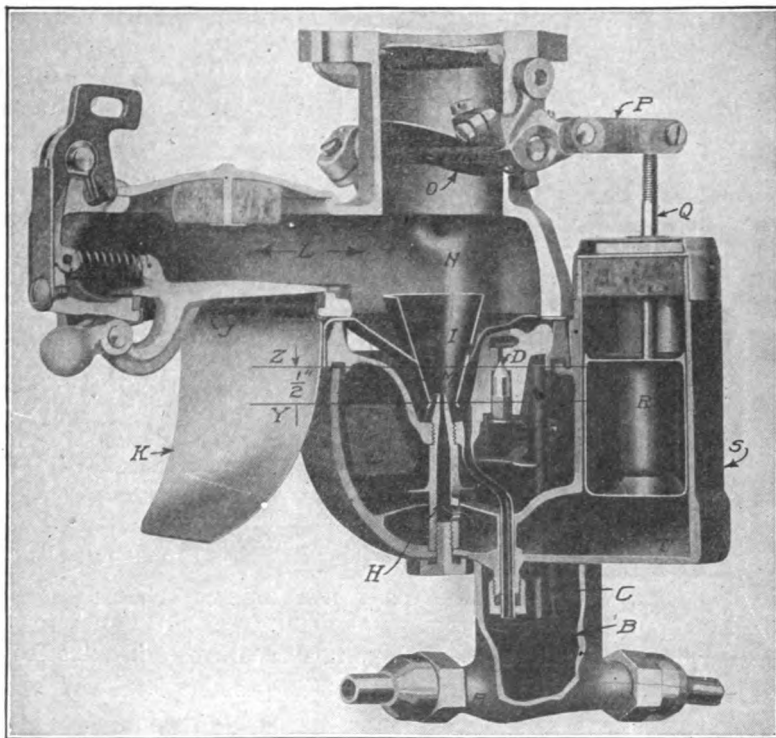

Fig. 124. Section through Cadillac Carburetor Used on Models 53, 55 and 57
**Cadillac Carburetor.** A section through the latest Cadillac carburetor, which is a very simple device, is shown in Fig. 124. Fuel enters through the pipe *A* at the bottom, passing on to the well *B*, and thence to the float chamber, through the vertical pipe *C* and the float valve *D*, which are operated by the float *E*. This float is concentric and is hinged on one side of the float chamber. Below the float chamber is another chamber, or well, *F* which is supplied from it. Through the opening in the side of the nozzle *G*, this well in turn supplies fuel to the nozzle *H*, the fuel being drawn out at the top into the Venturi chamber *I*. At the left will be seen the air valve *J* as well as the scoop of shield *K*, which assists in drawing in the required